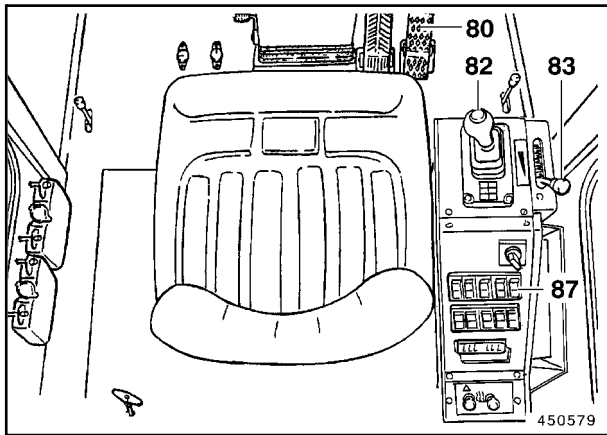
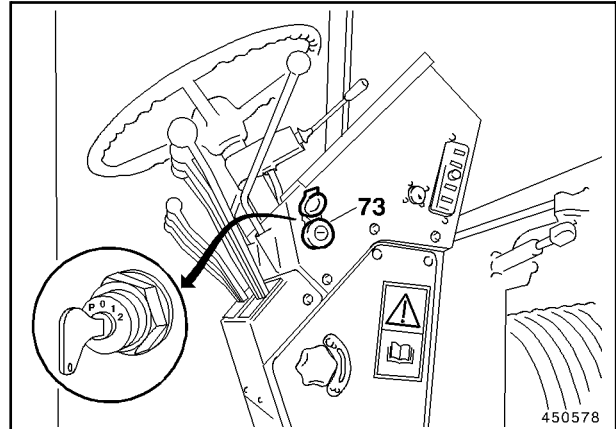
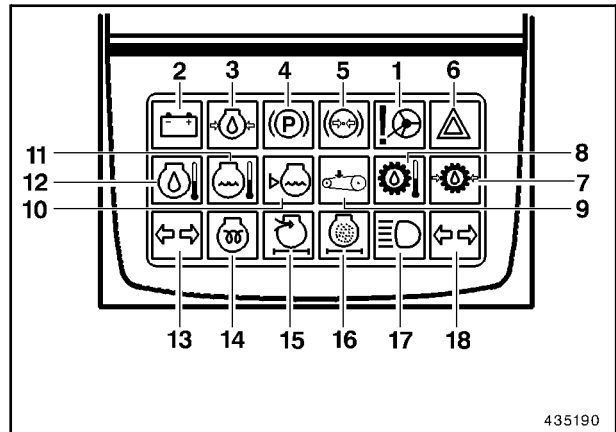

Fig. 1
Fig. 2
Fig. 3
- Apply the parking brake, using switch (87, Fig. 1). Indicator lamp (4, Fig. 3) lights up.
- Move gearshift lever (82) to neutral position; see section "Gearshift lever - powershift transmission".
- Turn key-switch (73, Fig. 2) to position 1. All warning and indicator lamps and the LEDs light up for ca. 1 second. When the immobilizer is activated, the operator is now requested to enter the code (see "Electronic immobilizer - Entering the code"). Thereafter only warning lamps (2, 3, 4, 5 and 7, Fig. 3) and the indicator LEDs of stored function keys such as